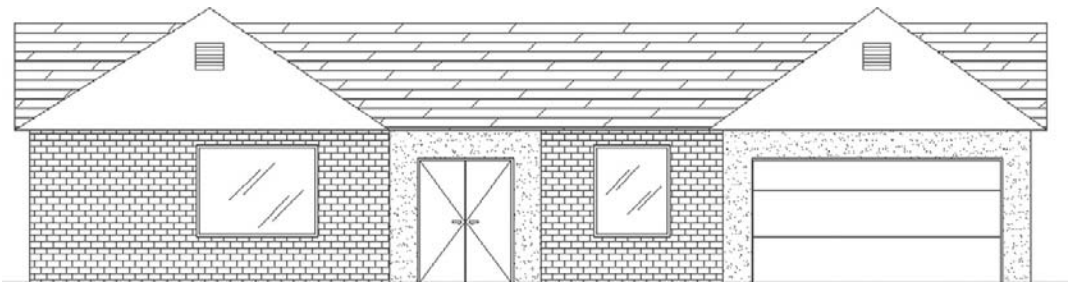

FIGURE 18.24
- Step 3.** Complete the elevation by adding exterior wall hatch and some other finishing touches. Figure 18.24 shows the final result. Repeat the same procedure for at least one other side of the house or complete all four.